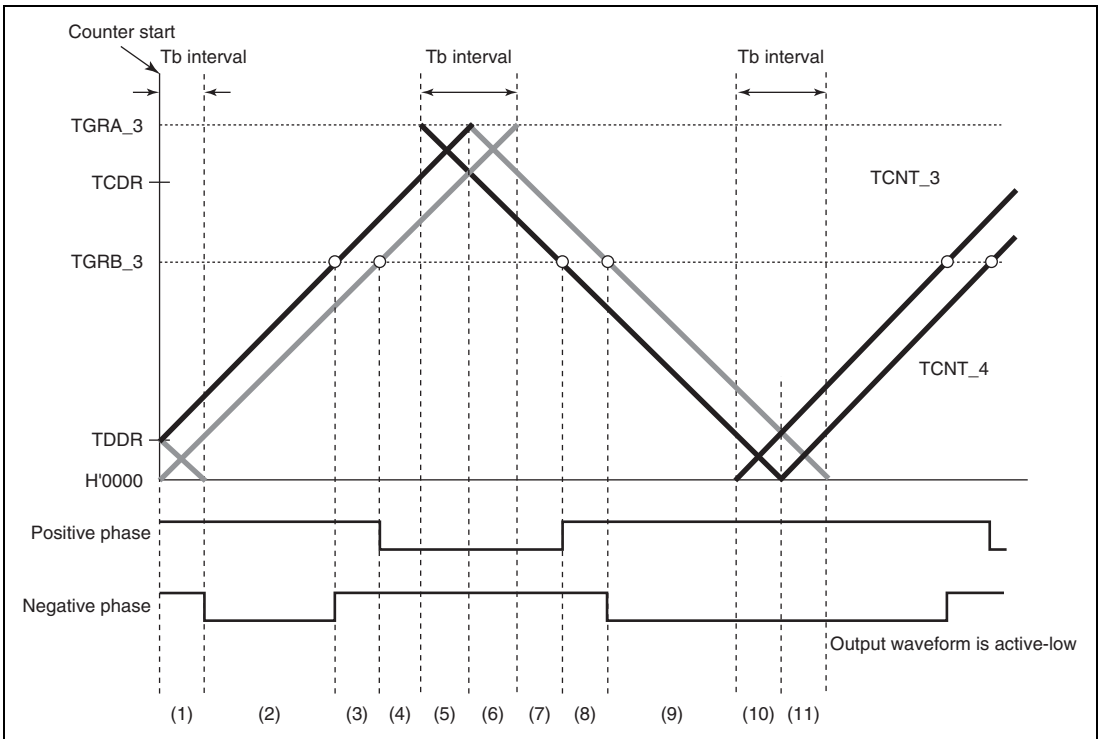
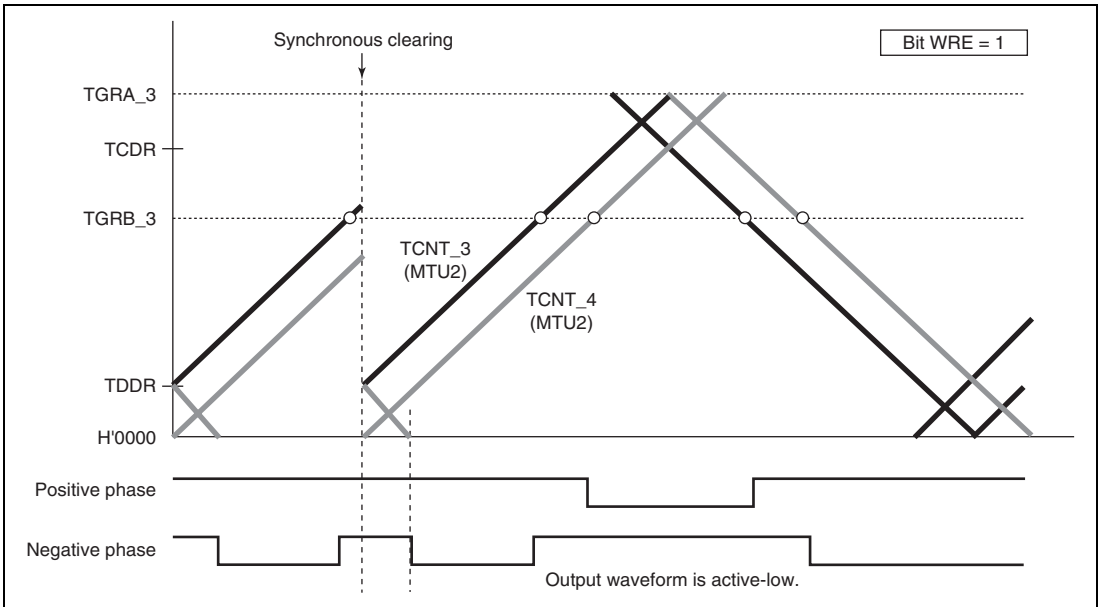

Figure 9.56 Timing for Synchronous Counter Clearing
Figure 9.58 Example of Synchronous Clearing in Dead Time during Up-Counting
Initial output suppression is applicable only when synchronous clearing occurs in the T_b interval at the trough as indicated by (10) or (11) in figure 9.56. When synchronous clearing occurs outside that interval, the initial value specified by the OLS bits in TOCR is output. Even in the T_b interval at the trough, if synchronous clearing occurs in the initial value output period (indicated by (1) in figure 9.56) immediately after the counters start operation, initial value output is not suppressed.
Figures 9.58 to 9.61 show examples of output waveform control in which the MTU2 operates in complementary PWM mode and synchronous counter clearing is generated while the WRE bit in TWCR is set to 1. In the examples shown in figures 9.58 to 9.61, synchronous counter clearing occurs at timing (3), (6), (8), and (11) shown in figure 9.56, respectively.
(Timing (3) in Figure 9.56; Bit WRE of TWCR in MTU2 is 1)
(Timing (6) in Figure 9.56; Bit WRE of TWCR in MTU2 is 1)
(Timing (8) in Figure 9.56; Bit WRE of TWCR is 1)
(Timing (11) in Figure 9.56; Bit WRE of TWCR is 1)